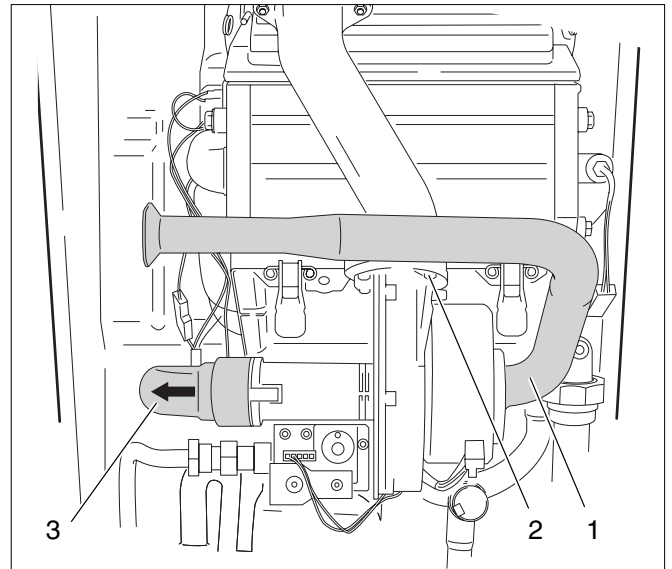

Fig. 52 Dismantling the fan unit
- Remove the air suction tube (see fig. 52, pos. 1).
- Remove the fan unit fastening screw (see fig. 52, pos. 2).
- Remove the fan unit by swinging it to the right (see fig. 52, pos. 3).